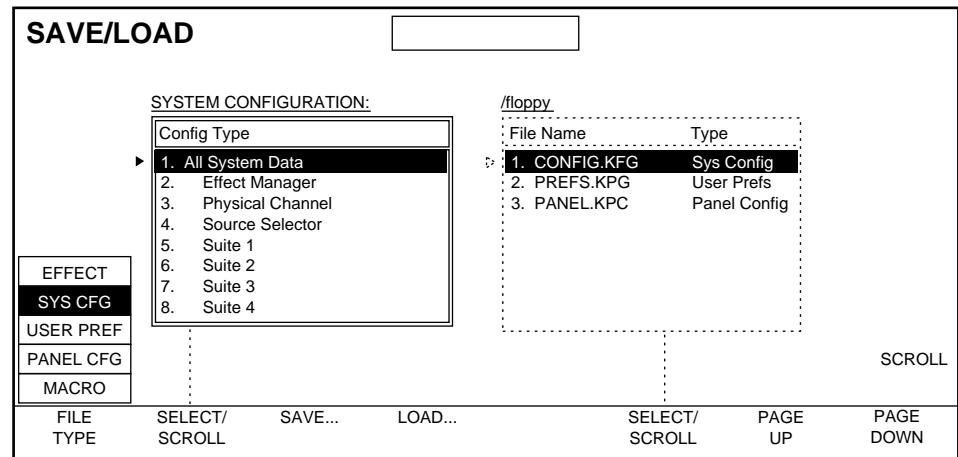

Figure 3-39. File Operations Save/Load Menu
3. Press the File Oper. top menu button, then press SAVE/LOAD > to go to the File Operations Save/Load menu (Figure 3-39).